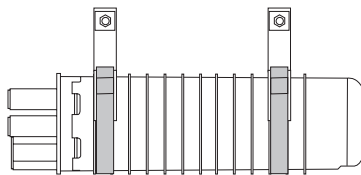

Fig. 3: FOSC 400 B closure
3. Install the second hose clamp or strap near the end of the closure, as shown in Figs. 3 through 5.